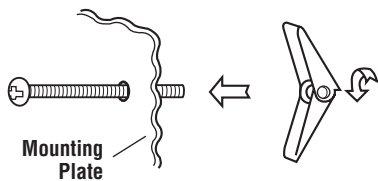

Figure 18
1. Separate 4 Toggle Bolts ②, packed in the INSTALLATION HARDWARE, from the Toggle Nuts.
2. Use Wood Screws 1 to attach Mounting Plate to the stud or studs. Use Toggle Bolts to attach Mounting Plate through the holes at A, B, C and D; UNLESS THOSE HOLES ARE LOCATED ON THE STUD. Insert one Toggle Bolt into A, B, C and D where appropriate (these correspond to the holes of the Wall Template) and put the Toggle Nuts onto the Toggle Bolts. Figure 18. Refer to instructions in Wall Template.